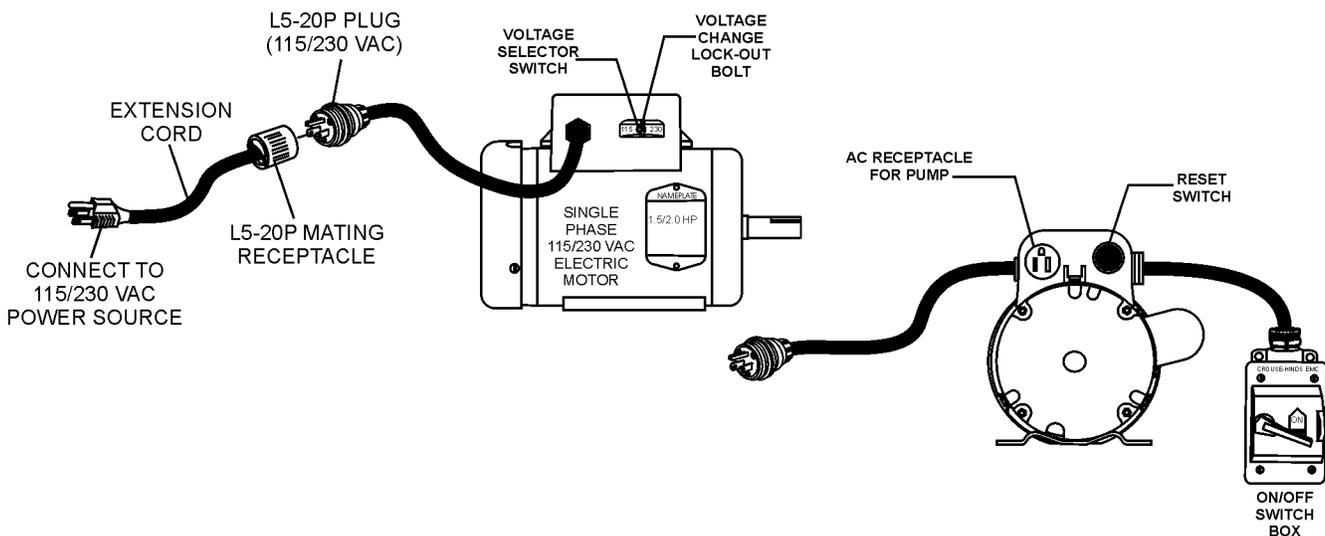

Figure 11. Extension Cord Connection
3. **MAKE CERTAIN** that the correct size extension cord (Figure 11) is used. Undersized wires will burn out motors. Use Table 4 to determine the correct extension cord size.